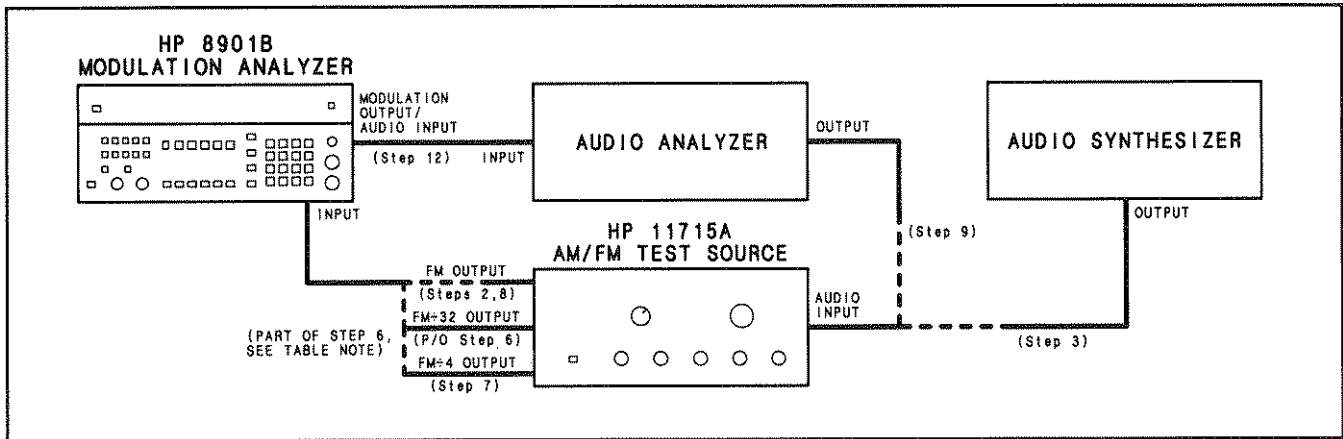

Figure 4-3. FM Performance Test Setup
2. On the AM/FM test source, set the test mode to FM. Connect its FM output to the Modulation Analyzer's INPUT. (See Figure 4-3.)
3. Set the audio synthesizer to 200 Hz at -10 dBm. Connect its output to the audio input of the AM/FM test source. (See Figure 4-3.)
* Connect the FM÷32 output of the AM/FM test source to the Modulation Analyzer's INPUT to make this measurement. (See Figure 4-3.) Press AUTOMATIC OPERATION, then MHz to retune the Measuring Receiver. If the resolution is not 0.001 rad, press Φ M again.
- On the Modulation Analyzer, key in 3.1 SPCL to set the IF to 455 kHz. Press FM. On the AM/FM test source, connect the FM÷4 output. (See Figure 4-3.) Set the audio synthesizer frequency as shown in the following table. Set the Modulation Analyzer High Pass Filter as shown in the table. Set the audio synthesizer level to give the FM deviation shown in the table. After setting each FM deviation, press Φ M. For each setting, the Modulation Analyzer's display should read between the limits indicated in the table.
- Connect the FM output of the AM/FM test source to the Measuring Receiver's INPUT. (See Figure 4-3.) Press AUTOMATIC OPERATION on the Modulation Analyzer.
- Set the audio analyzer's oscillator to 1 kHz. Connect its output to the audio input of the AM/FM test source. (See Figure 4-3.)
12. Connect the audio analyzer's input to the Modulation Analyzer's MODULATION OUTPUT/AUDIO INPUT. (See Figure 4-3.) Set the audio analyzer to measure the distortion on the 1 kHz signal at the MODULATION OUTPUT/AUDIO INPUT. Set the high-pass filter on the audio analyzer to 400 Hz. The distortion should be 0.1% (-60 dB) or less.